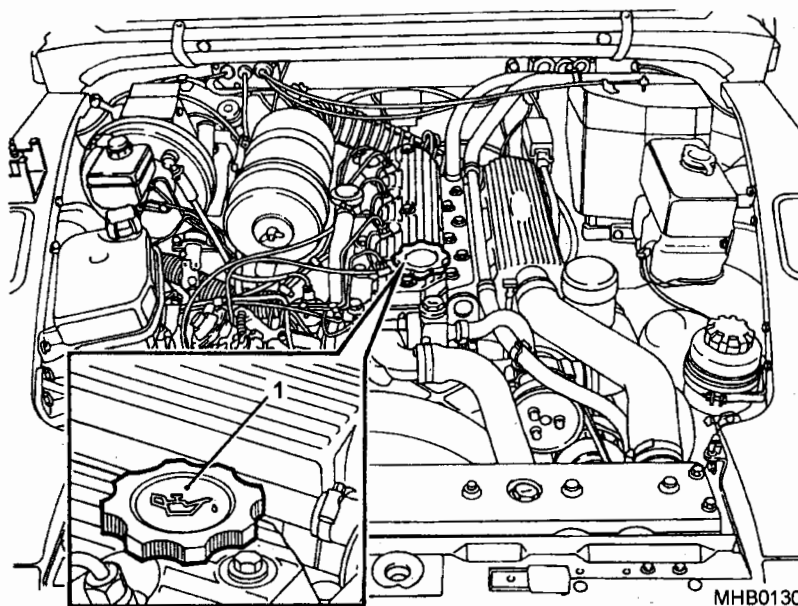

Fig 49 Engine oil filler cap
53 The engine oil filler cap (Fig 49 (1)) is situated on top of the rocker box cover towards the forward end of the engine. If the engine oil level is low it can be topped up through the filler cap.